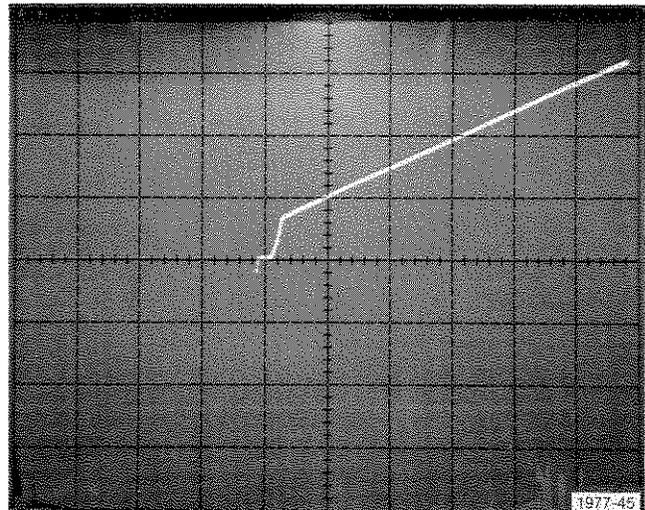

Fig. E-9. + supply current.
a. Check that the crt display represents a supply current of ≤ 2 mA (≤ 4 vertical divisions from the graticule center, see Fig. E-9).